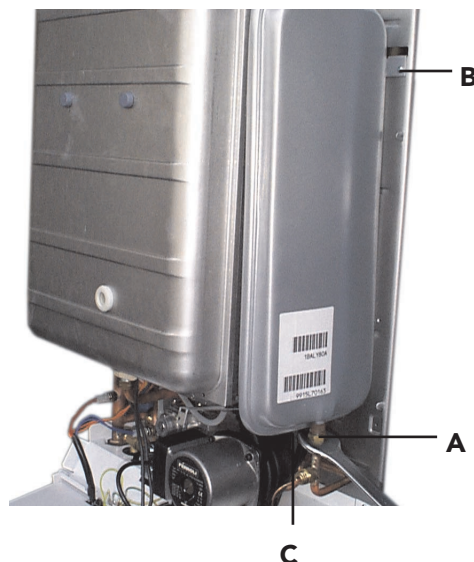

Fig. 35
7.04 Remove and re-pressurising of C.H. expansion vessel (fig. 35)